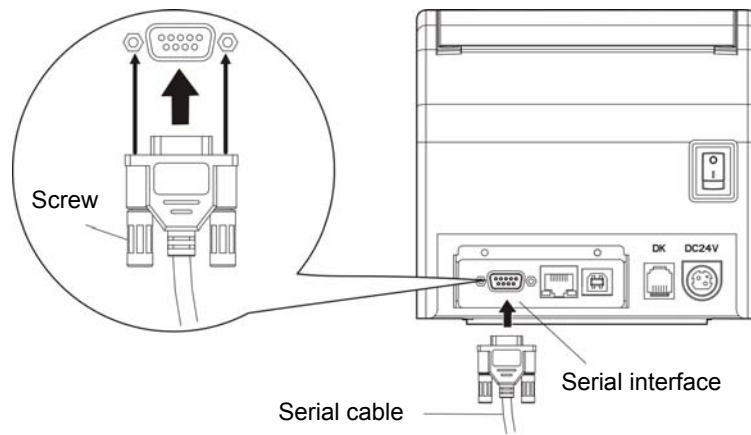

Figure 2-4 Connecting the serial cable
1. Make sure the computer and the printer are both turned off, plug the serial cable to the serial interface of the printer. Tighten the screws on both sides and make the cable fixed (as shown in Figure 2-4).